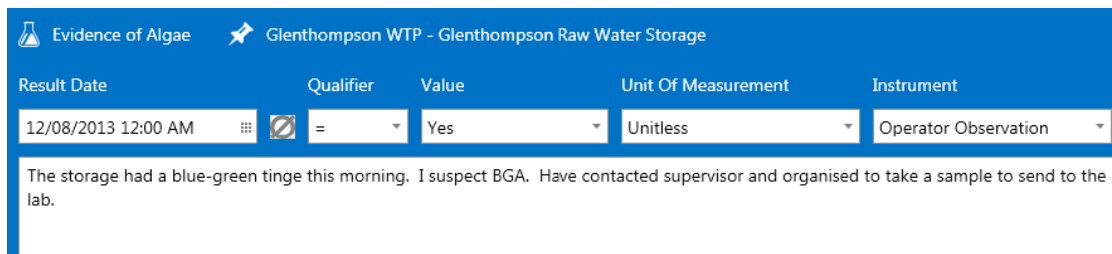
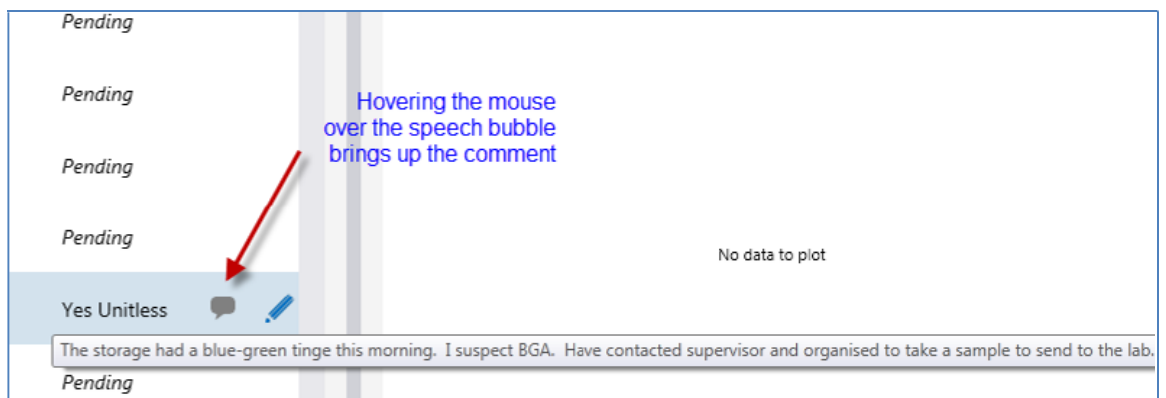

Figure 5: *Comments are added by the Operator*
Figure 6: *Viewing comments on the data entry screen by hovering over the icon*
- Adding and viewing comments.** Comments can be added to any data entry (Figure 5). If a comment is added to a test, it is clearly visible by a speech bubble (Figure 6). An Operator can hover the mouse over the speech bubble to read the comment. Comments can be easily added to any report if required.